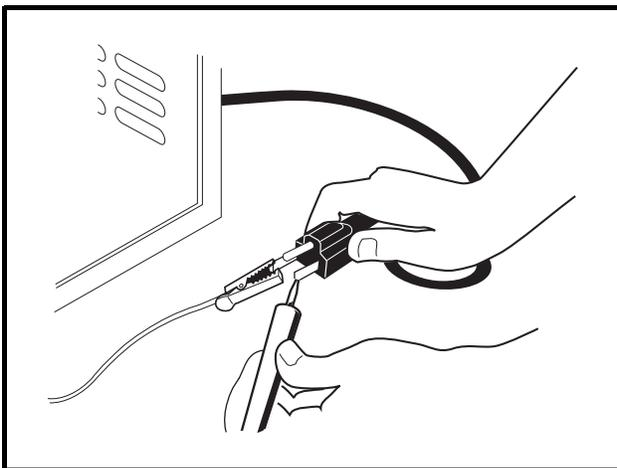

Figure 5-11 AC Cord Test
- 5.3. With relay bypassed, there should be continuity across the AC cord blades (**Figure 5-11, Page 5-15**).